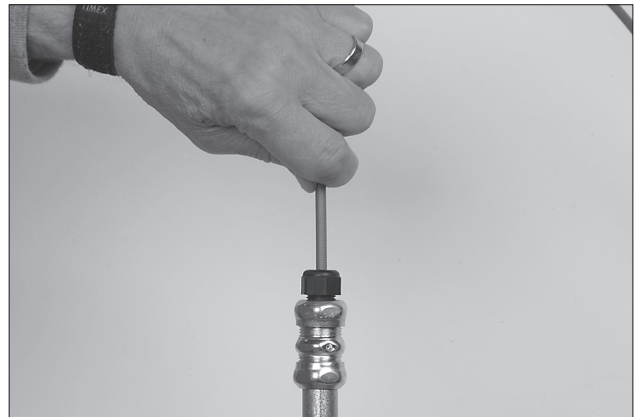

FIGURE 5-95
10. Push the flexible conduit completely through the conduit offset. Stop the flexible conduit flush or +/- 1/2 in. (13 mm) from the bottom conduit fitting in AUTOMAN release. See Figure 5-95.